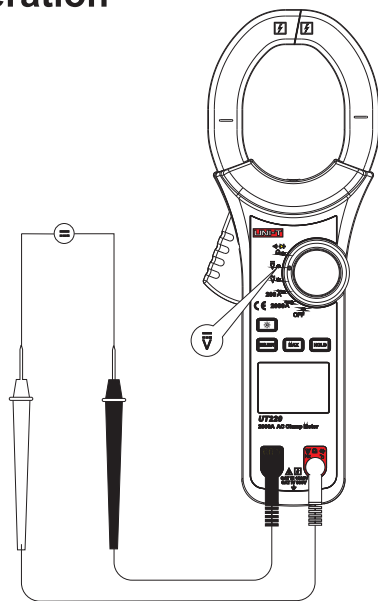

Figure 3
1. DC voltage measurement \bar{V} (See Figure 3)